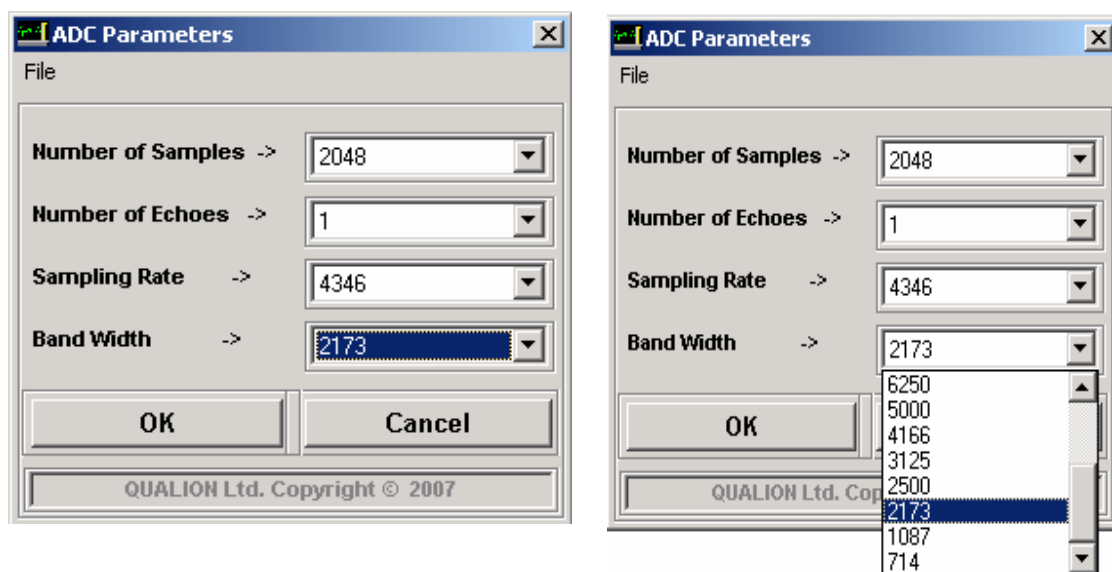

Figure 17: Setting ADC Parameters
**Duration** — The duration and bandwidth of the FID are determined by the parameters entered for the ADC, as described in Figure 17. The duration of the acquisition period is a function of the number of points acquired and the rate at which readings are taken. The bandwidth is a value entered directly into the ADC parameter setup screen.
**90° Pulse** — The FID signal is controlled by changing the duration (PW) of the main transmitter pulse. First, you find the 180° point by adjusting the PW to generate a null RMS value. You then set the PW to another phase by applying an appropriate percentage to the 180° PW value. For a 90° pulse, use 50% of the 180° value; for 60° pulse, use 33.3%; for 45°, use 25%.
Figure 17 shows the dialog box for setting parameters for the analog to digital conversion. This box is displayed by clicking on the ADC button in the Main Menu.